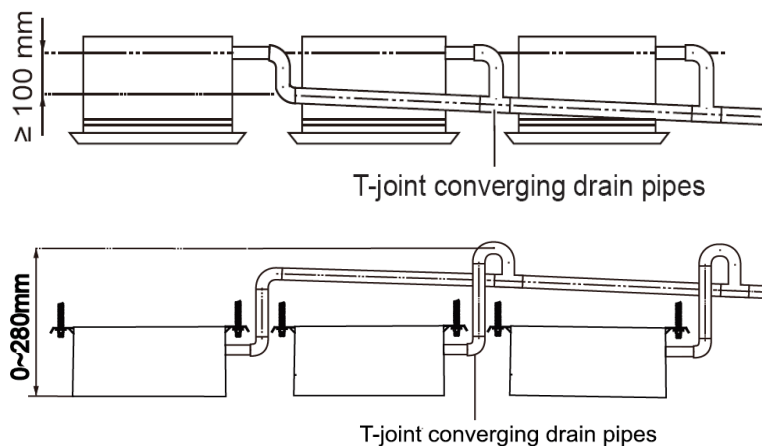

Figure 3-1-38
- (3) When unifying multiple drain pipes, install the pipes as Figure 3-1-38. Select converging drain pipes whose gauge is suitable for the operating capacity of the unit. (take the cassette type unit for example)